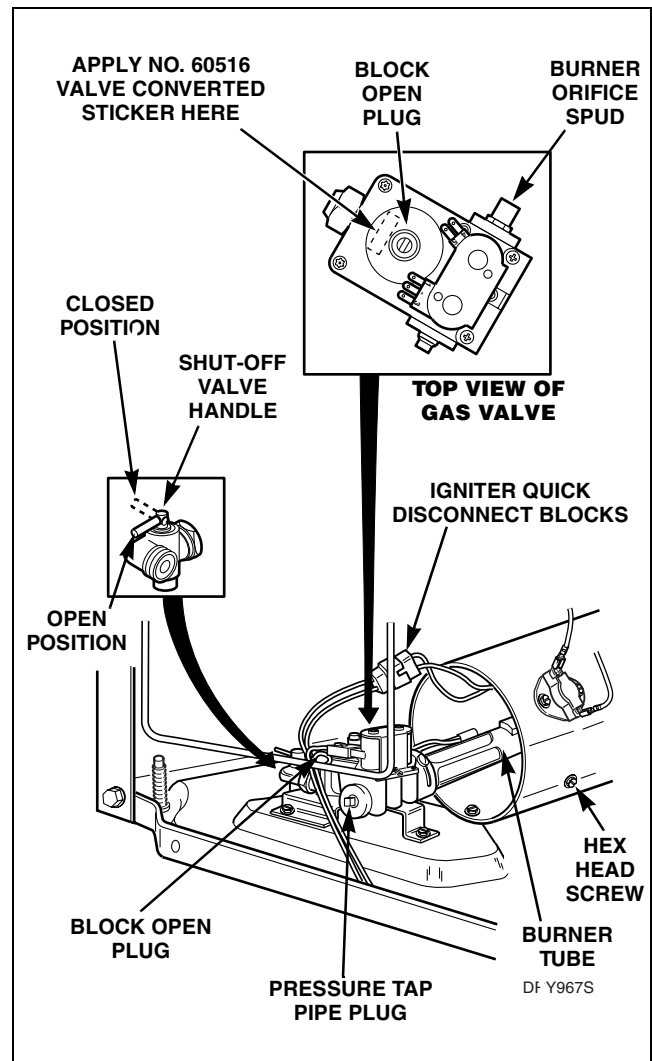

Figure 47
- Disconnect igniter wires at quick disconnect blocks. Refer to *Figure 47*.
- Remove hex head screw holding burner tube and igniter in place. Refer to *Figure 47*.
- Remove the block open plug and install No. 58768 Vent Screw. Refer to *Figure 47*.
- Install No. 60516 “Valve Converted to Natural Gas” Sticker to top side of gas valve so it covers the gas valve part number. Refer to *Figure 47*.
- Turn the gas line shut-off valve handle to the open position and connect electrical service. Refer to *Figure 47*.
- (1) Remove pressure tap pipe plug. Refer to *Figure 47*.
- (4) Stop dryer and remove “U” tube and reinstall the pressure tap pipe plug. Refer to *Figure 47*.